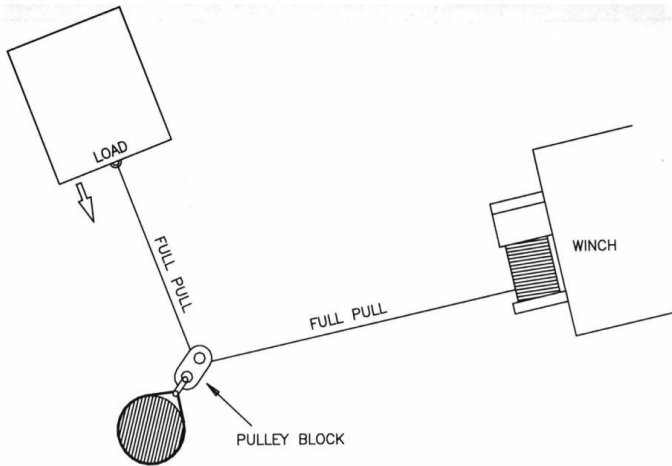

Figure 20
5. Figure 20 illustrate the use of a pulley block to change the direction of the pull. Mechanical advantage can be obtained by attaching a pulley block to the nylon sling with a shackle and running the wire rope to the